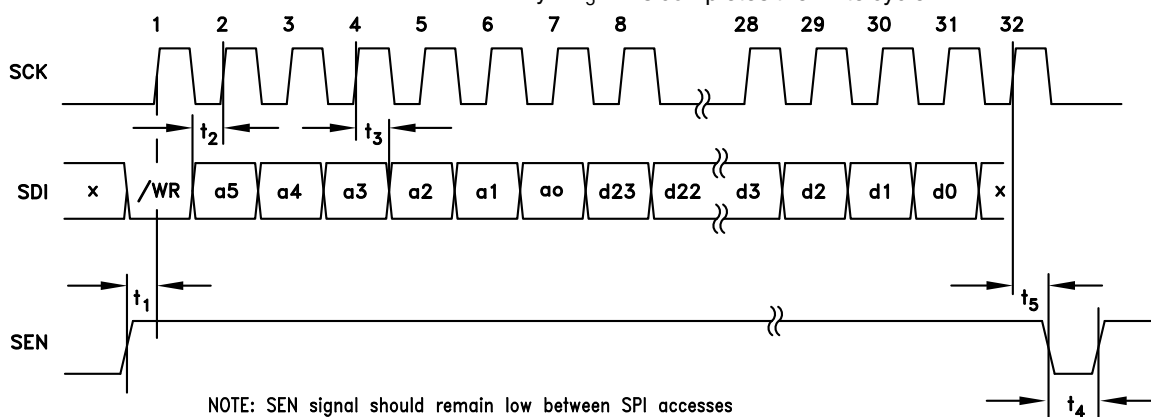
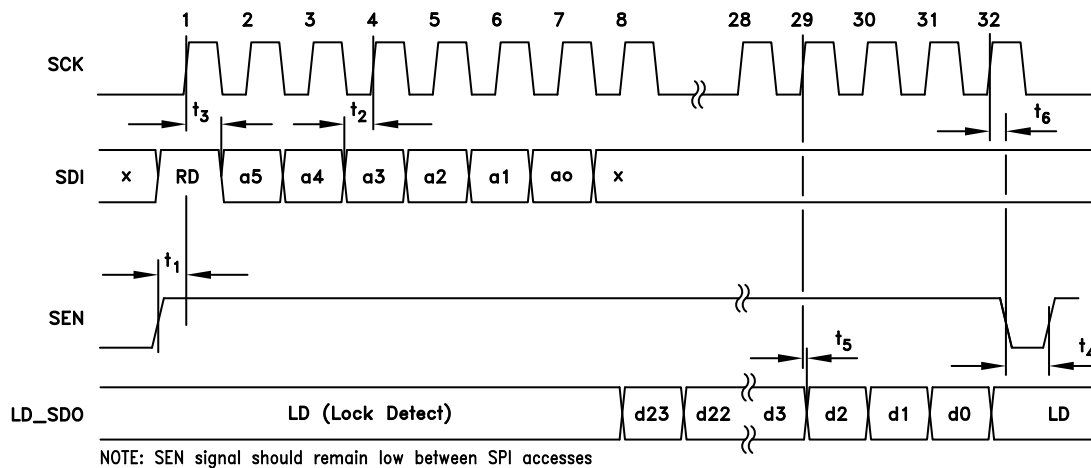

Figure 24. HMC Mode - Serial Port Timing Diagram Write
Figure 25. HMC Mode - Serial Port Timing Diagram - READ
The HMC Mode protocol, shown in Figure 24 and, Figure 25 is designed for a 4 wire interface with a fixed protocol featuring
A typical HMC Mode WRITE cycle is shown in Figure 24.
A typical HMC Mode READ cycle is shown in Figure 25.
- The Master (host) asserts both SEN (Serial Port Enable) and SDI to indicate a READ cycle, followed by a rising edge SCLK. Note: The Lock Detect (LD) function is usually multiplexed onto the LD\_SDO pin. It is suggested that LD only be considered valid when SEN is low. In fact LD will not toggle until the first active data bit toggles on LD\_SDO, and will be restored immediately after the trailing edge of the LSB of serial data out as shown in Figure 25.
- The slave (HMC1035LP6GE) reads SDI on the 1st rising edge of SCLK after SEN. SDI high initiates the READ cycle (RD)
The HMC1035LP6GE communicates with the internal VCO subsystem via an internal 16 bit VCO Serial Port, (e.g. see Figure 25). The internal serial port is used to control the step tuned VCO and other VCO subsystem functions, such as RF output divider / doubler control and RF buffer enable.